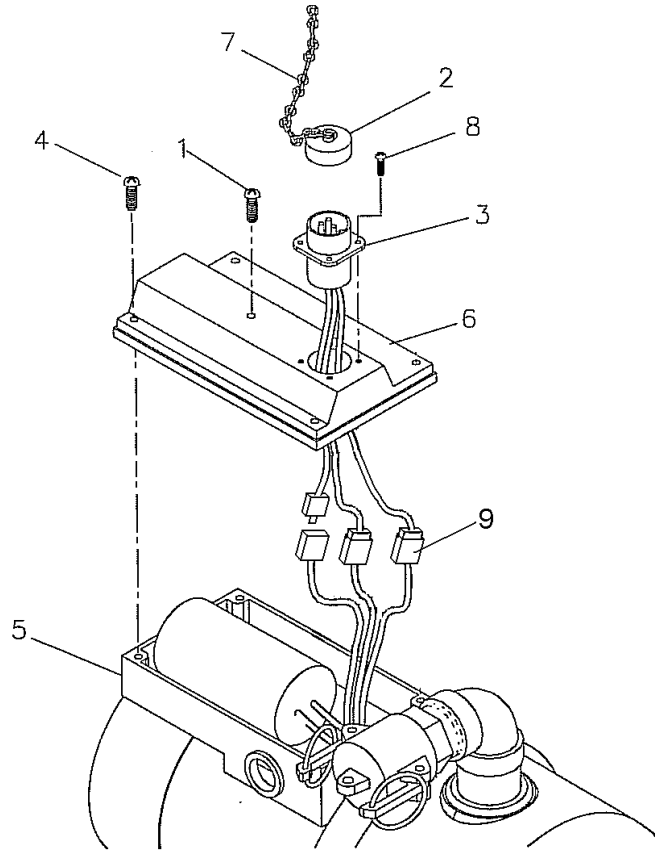

Figure 2. Service Pump Terminal Box (Exploded View).
4. Remove four screws (4) from terminal box cover (6). See Figure 2.
5. Remove receptacle cap (2) with lanyard (7) from receptacle (3).
6. Remove terminal box cover (6) from terminal box with gasket (5).
7. Tag wires from receptacle (3) to assist during installation.
1. Connect three wires (black, green, white) to the pump by fitting the quick connectors (9) together.
3. Install receptacle (3) on terminal box cover (6). Secure with four screws (8). Tighten securely. See Figure 2.
4. Install terminal box cover (6) on pump (5). Secure with four screws (4). Tighten securely.
5. Install screw (1) to secure lanyard (7) in terminal box cover (6). Tighten securely.